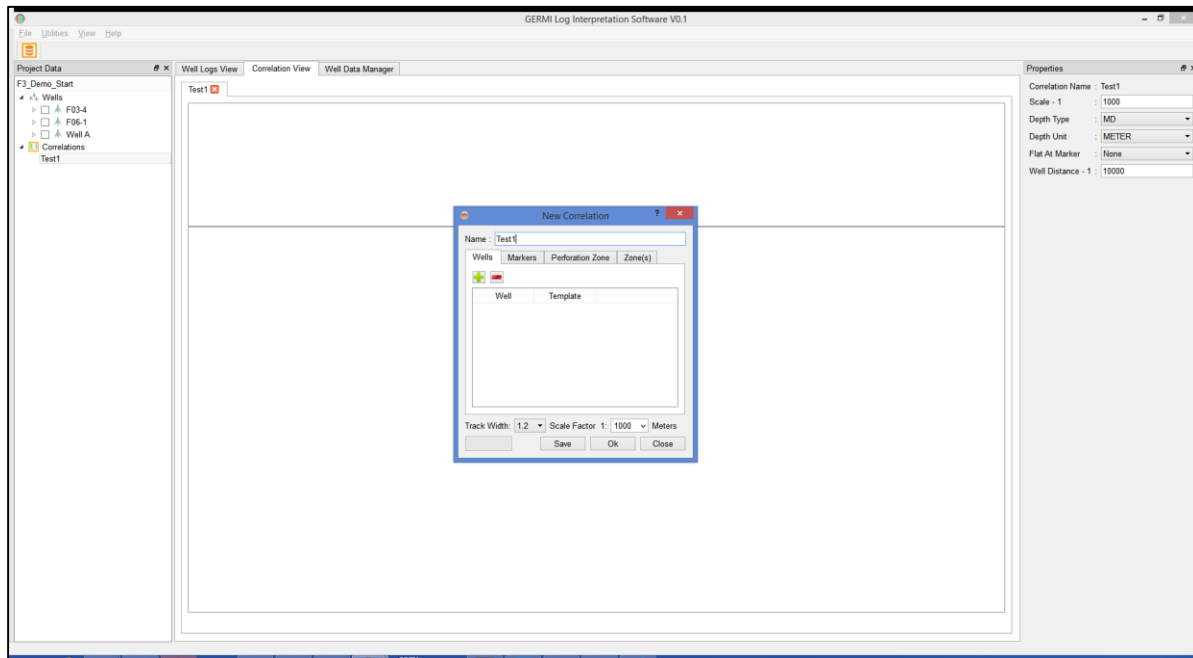

Figure 5.4 Set the Well Correlation Display template name.
Step 3: Set the Correlation name in “Name” edit and then click on “save” button to save the Correlation template with that name as shown in figure 5.4.